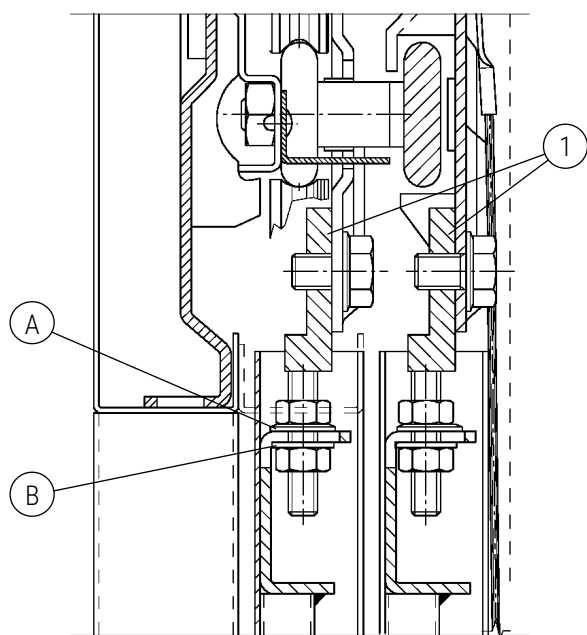

Fig. 3
Type 11/R-L Standard - not coated: place the panel (1) fixing bolts as shown on fig.3.